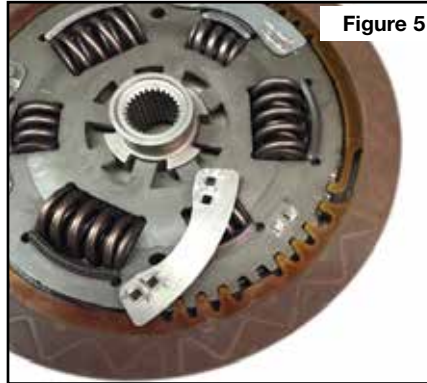
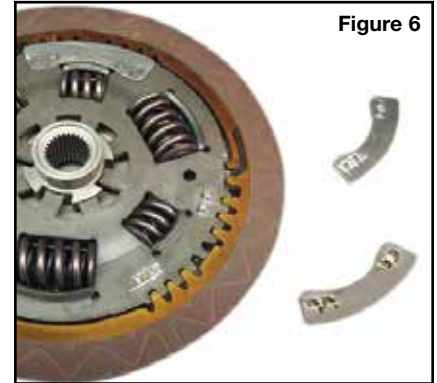

Figure 5
Figure 6
- c. Once two of the three plates are detached (Figure 5), remove OE clutch plate (Figure 6).
- Once two of the three plates are detached (**Figure 5**), remove OE clutch plate (**Figure 6**).
**NOTE:** It takes some practice to remove the OE clutch plate from the damper. Start by lifting clutch plate at a diagonal across from the still secured plate (**Figure 6**).